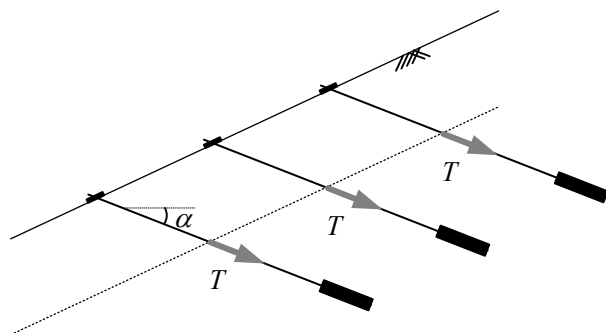

Figure 4
- (1-2) In order to increase the safety factor,  $F$  against the sliding failure in (1-1), ground anchors are installed into the slope as shown in Figure 4. The ground anchors are installed at an angle  $\alpha$  from the horizontal plane, and its installation interval is  $L$  (a ground anchor is installed at the area abcd). The tension of each anchor is  $T$ . Ground anchors are installed to achieve the following two objectives: (1) Increase the normal force acting on the sliding surface (clamping effect), and (2) Increase the resistance force against the sliding of slope (straining effect). Formulate the safety factor,  $F$  by considering both two effects, in terms of  $c, \gamma_t, H_f, \sigma, \phi, \theta, L, \alpha, T$ . Here, neglect the stiffness of the ground anchors.